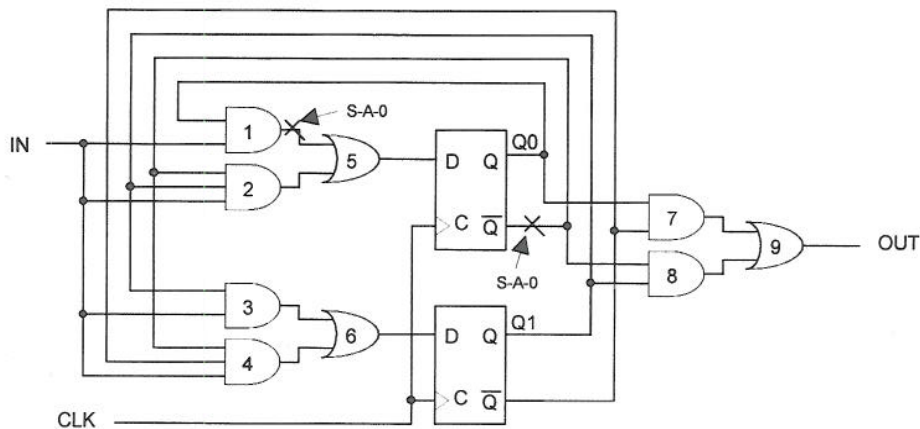

Figure 4.1
4. a) *Figure 4.1* shows the gate-level circuit diagram of a finite state machine with one primary input IN and one observable primary output OUT. Find a sequence of inputs that will detect a stuck-at-0 (S-A-0) fault on the \bar{Q} output of the upper flip-flop. Assume the existence of a master reset which initially resets all D flip-flops to 0.